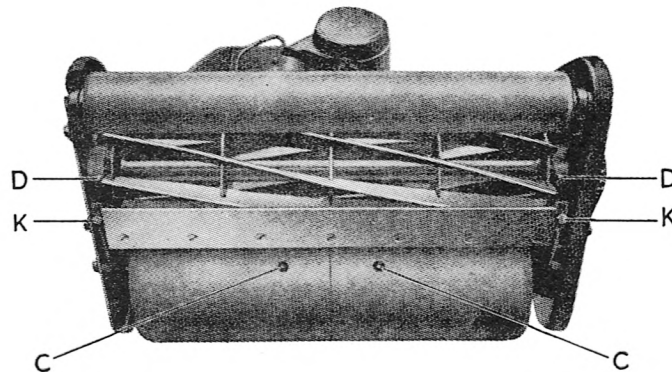

Fig. 5.
3. Land rolls, through nipples C which will be found through surface of each roll (Fig. 5).
4. Cutting cylinder bearings through nipples D. (Fig. 5, page 7).
For setting the knives a simple method is used, viz., adjusting screws (K)—see Fig. 5—on either side of machine.